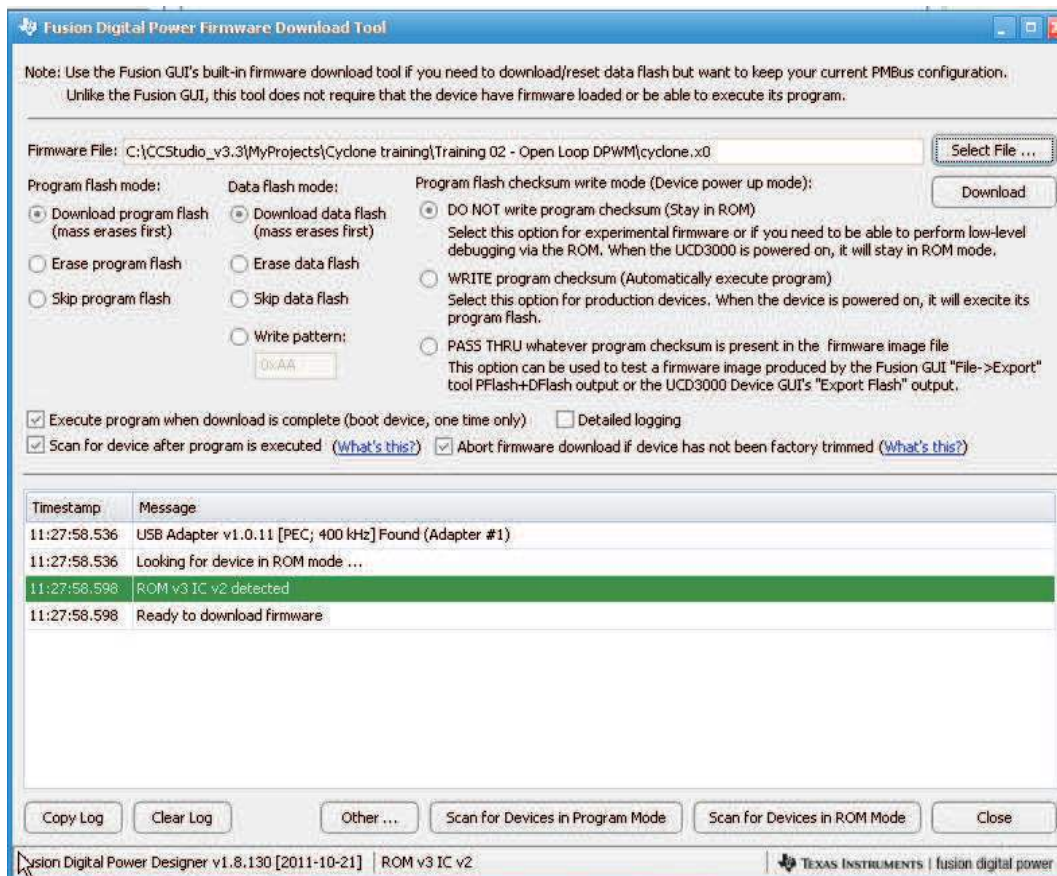

Figure 14. Firmware Code Downloading
4. Check “Download program flash”, “Download data flash” and “DO NOT write program checksum” as shown in Figure 14.
5. Click “Firmware Download”; then a new window appears as shown in Figure 14. Click “Select File” and browse an intended firmware code file with file extension “.x0”; then click “Download”. Click “Close” to exit the download window.